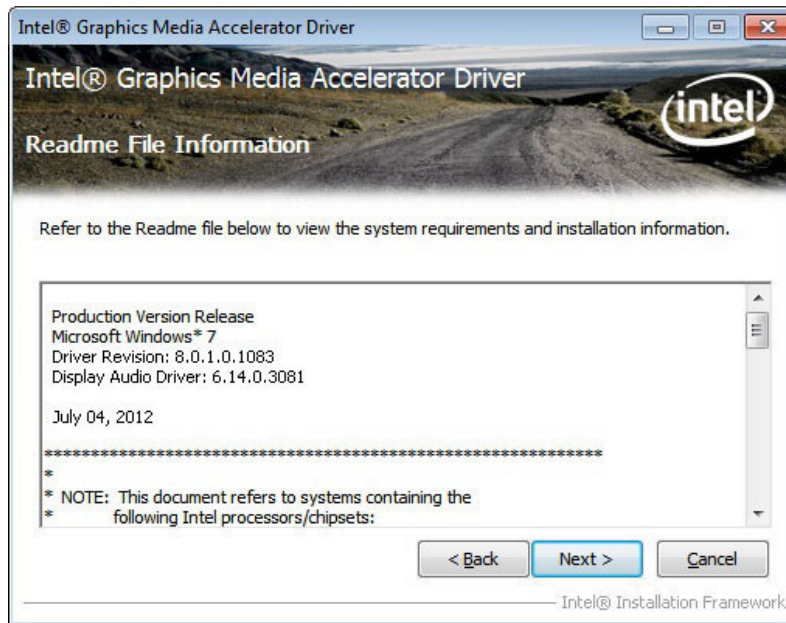

Figure 6-11: VGA Driver Read Me File
Step 10: The Read Me file in Figure 6-11 appears.